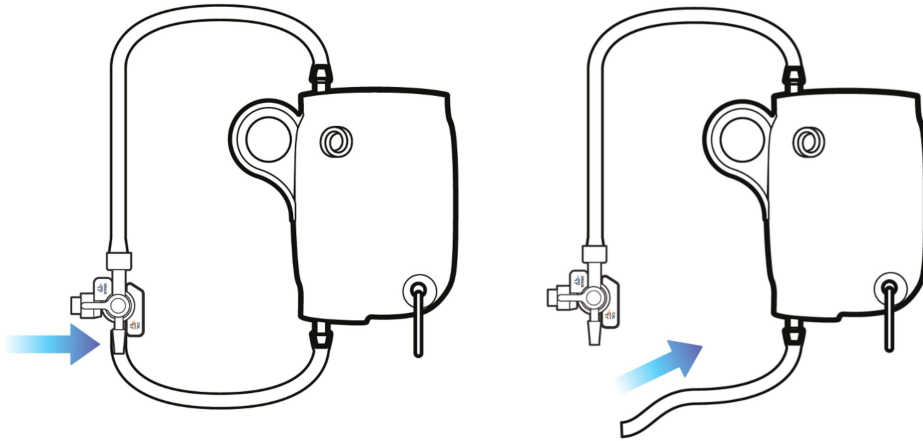

Figure 17: *Origin™* with associated flexible tubing and 3-way stopcock
Step 5 – *Origin™* will be packaged as illustrated in **Figure 17**. Detach the shorter portion of tubing from the tube adapter on the 3-way stopcock as dictated by the blue arrow. A label reading “Detach this tubing end” will be present to guide the user and indicate the end that must be detached from the 3-way stopcock.